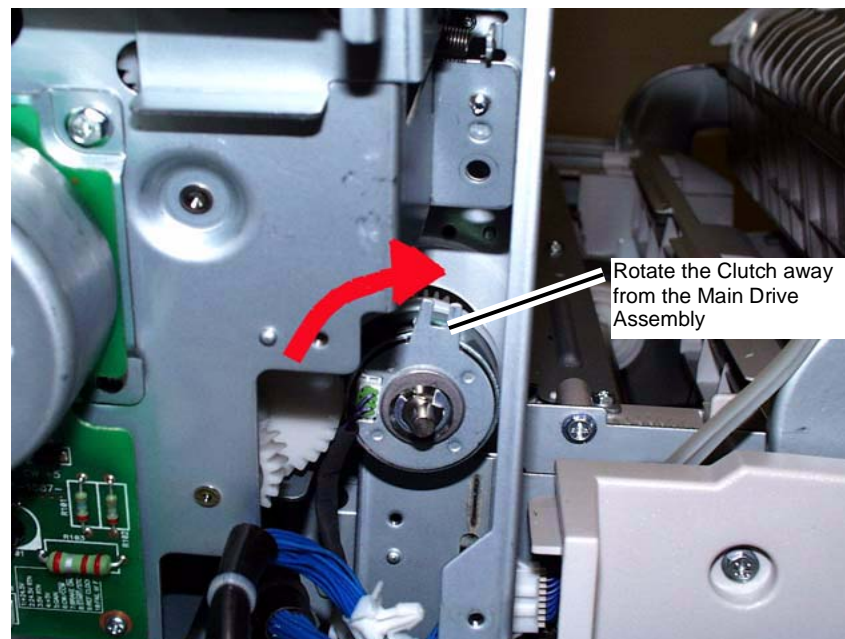

Figure 12 Preparing to remove the Main Drive Assembly
14. Rotate the Clutch clockwise to position the Clutch away from the Main Drive Assembly. (Figure 12)